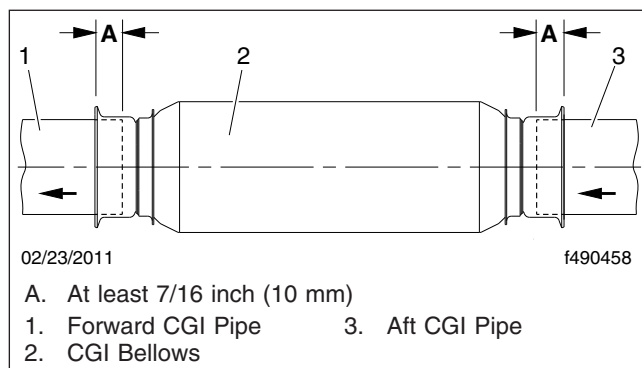

Fig. 11, CGI Bellows Installation
12. Slide the new bellows onto the aft CGI pipe as far as it will go. See **Fig. 11**, Ref. A. Measurement A should be at least 7/16 inch (10 mm) past the face of the flange.
16. Using the yellow marks, center the bellows between the exhaust pipes. Verify that the pipe is inserted at least 7/16 inch (10 mm) past the face of the flange. See Fig. 11, Ref. A.